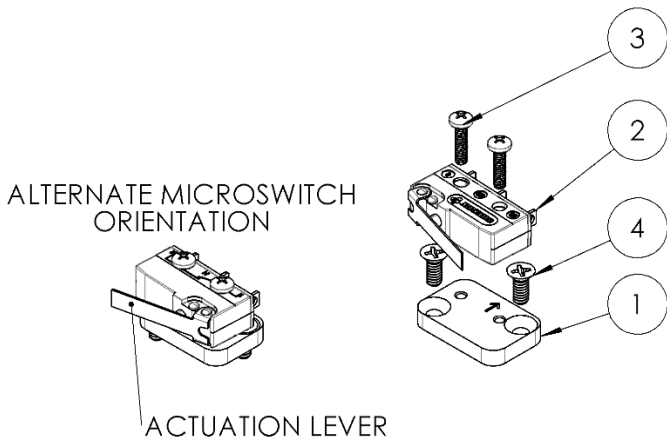
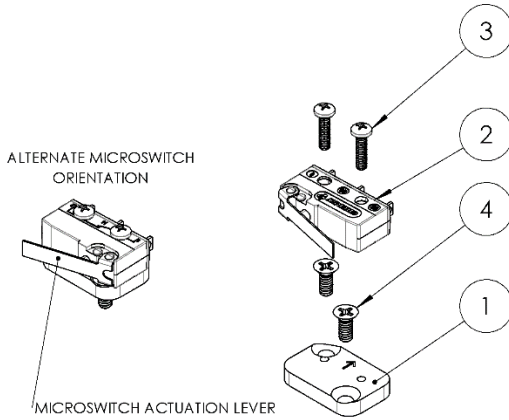
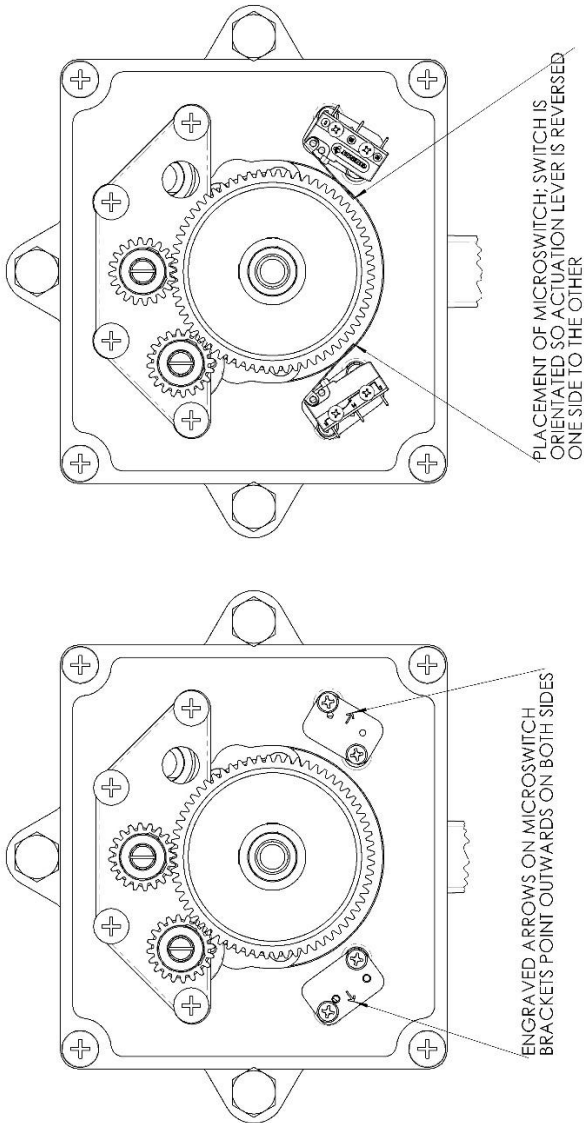

Figure 11: Microswitch retrofit kit, 7174-RF-01
Figure 12: Microswitch retrofit kit, 7170-RF-01
Figure 14: Placement of microswitch and microswitch bracket, 7163-B shown.
NOTICE	<p>Before removing old microswitches, please ensure you have one retrofit kit for each side that has a microswitch being replaced. Review Figure 11-Figure 12 and Table 6-Table 7 and compare to your retrofit kits to ensure the correct quantities of components are present.</p>
Depictions and BOMs for the two retrofit kits are shown in Figure 11-Figure 12 and Table 6-Table 7 respectively. The only difference between these kits is the microswitch bracket part number. Installation of the kits is identical.
4. Refer to Figure 14 and note the engraved arrow on the microswitch bracket ① is facing outwards on both sides of RFU.
5. Apply Loctite 242(Blue) to X2 Flat head screws ④.
6. Install bracket ① with screws ④ into the RFU cover plate, 7163-0002, ensuring the engraved arrow is correctly orientated.
7. Refer to Figure 14 and note the orientation of the microswitch ② for the side of the RFU that the microswitch is being replaced on.
8. Place the microswitch ② on top of the bracket ① orientating the microswitch so the actuation lever is as shown in Figure 14. For reference, the actuation lever is pointed to in Figure 11 and Figure 12.
9. Apply Loctite 242(Blue) to X2 pan head screws ③.
10. Use X2 screws ③ and tighten to secure the microswitch ②.